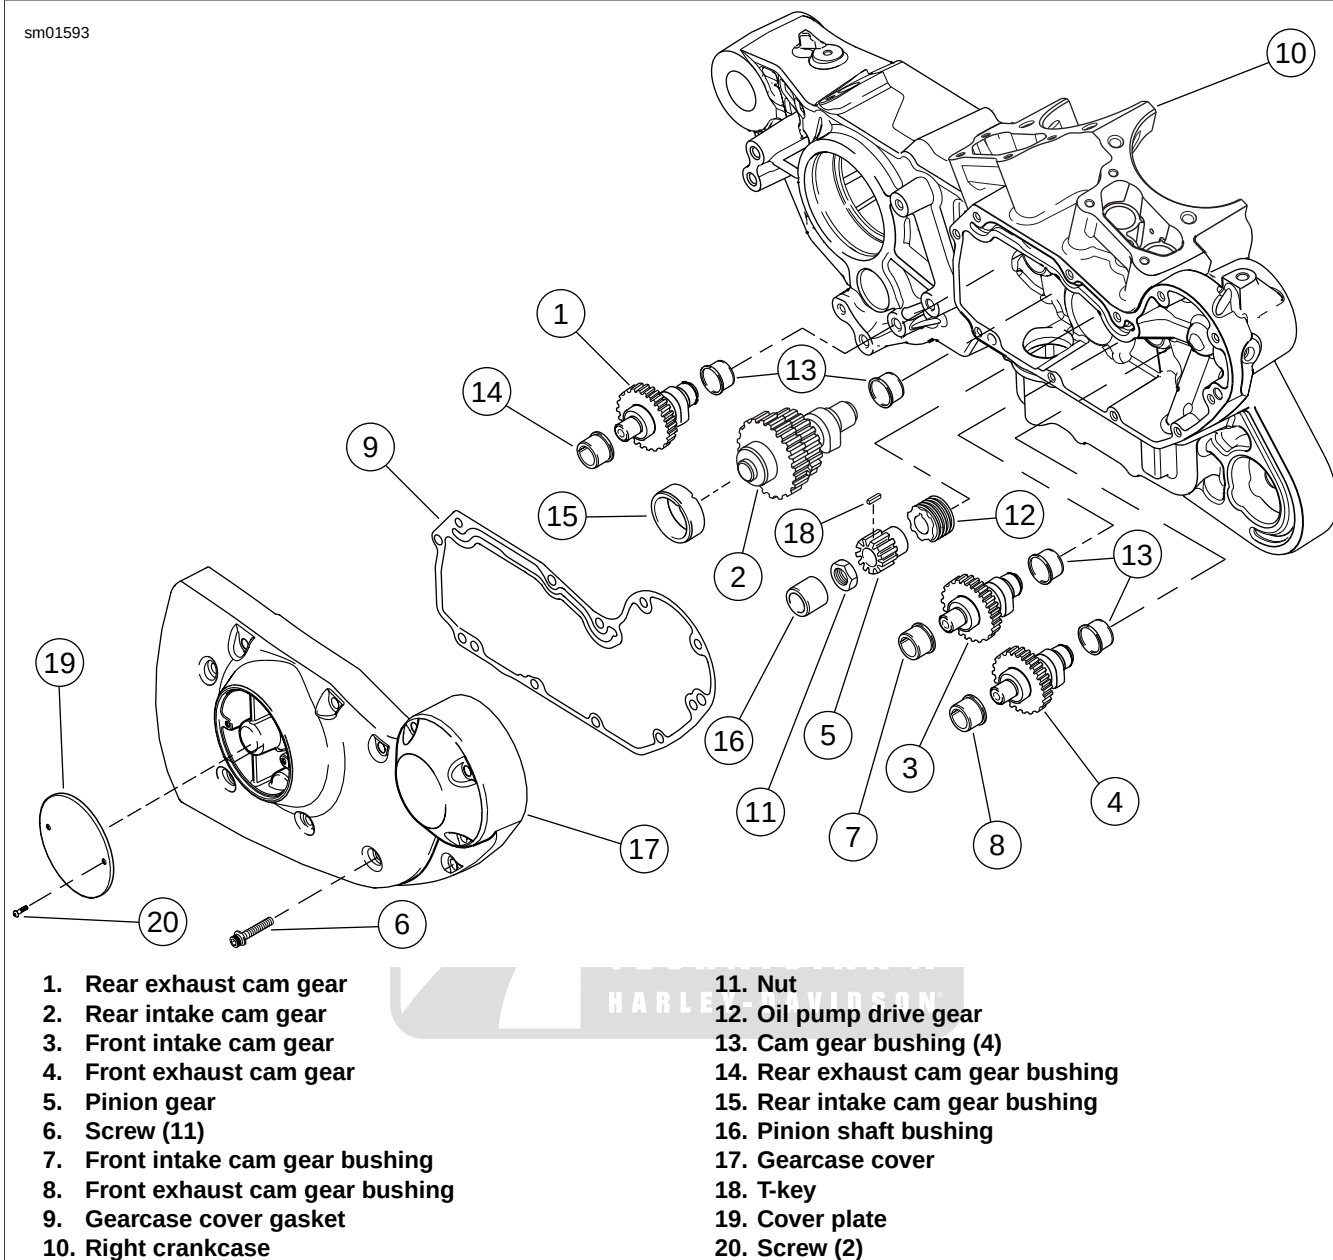

Figure 3-91. Gearcase and Valve Train Components: XL Models
1. See Figure 3-91. Make sure shaft key (18) is installed on flywheel pinion shaft. Install oil pump drive gear (12) and pinion gear (5) on pinion shaft.
2. See Figure 3-91. Clean threads on pinion shaft and nut (11). Apply several drops of LOCTITE THREADLOCKER 262 (red) to threads of nut.
See Figure 3-91. When using CRANKSHAFT LOCKING TOOL, Do NOT use impact wrench to drive nut (11) onto pinion shaft.
10. See Figure 3-91. Install a new dry gasket (9) on gearcase cover (17).